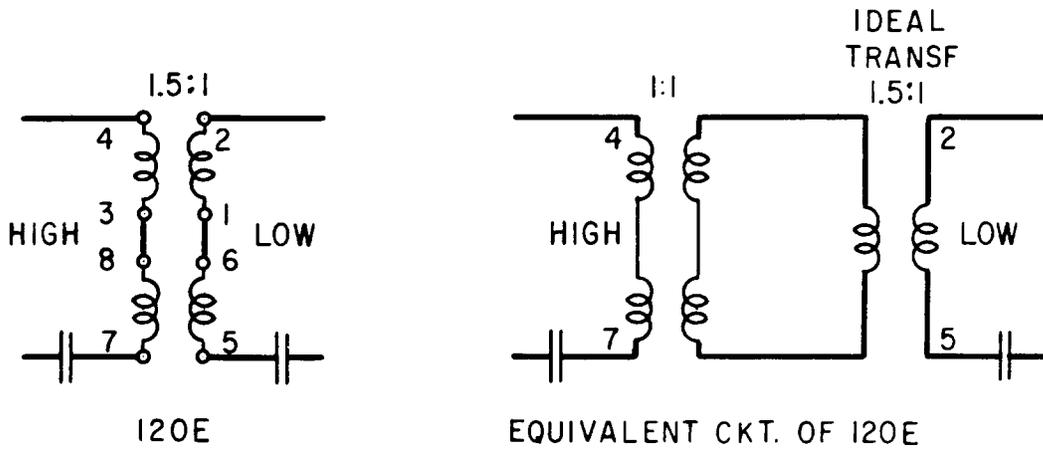

FIG. 1
1.02 The 120E repeating coil has an impedance ratio of 1.5 to 1 which is equivalent to a unity ratio coil plus an ideal 1.5:1 ratio transformer, as shown in Fig. 1. This makes it possible to obtain the input impedance of the 120E coil from charts similar to those for the 1:1 ratio coils. For a general discussion of the method of using the charts, refer to Section 304-200-100.
1.04 Figs. 1, 2, and 3 show, for computation purposes, the equivalent location of capacitors normally associated with the repeating coil, and for convenience a table of reactances of 1 mf and 4 mf at several frequencies is given below. The average value of Western Electric capacitors is usually 8 to 10% (and may be as much as 25%) higher than the nominal, with proportionately lower values of reactance.